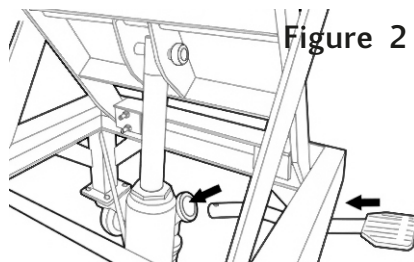

Figure 2
2. Install the Lifting Foot Pedal (13) to the Hydraulic Pump (20) as shown in Figure 2.